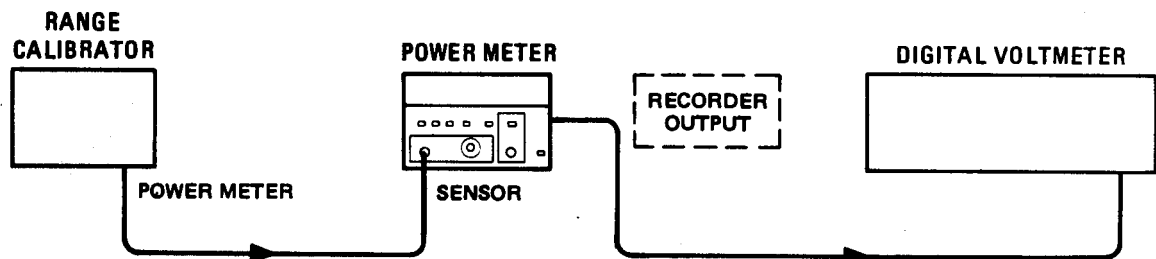

Figure 5-5. A-D Converter and Linear Meter Adjustment Setup
- 3. Connect the equipment as shown in Figure 5-5.